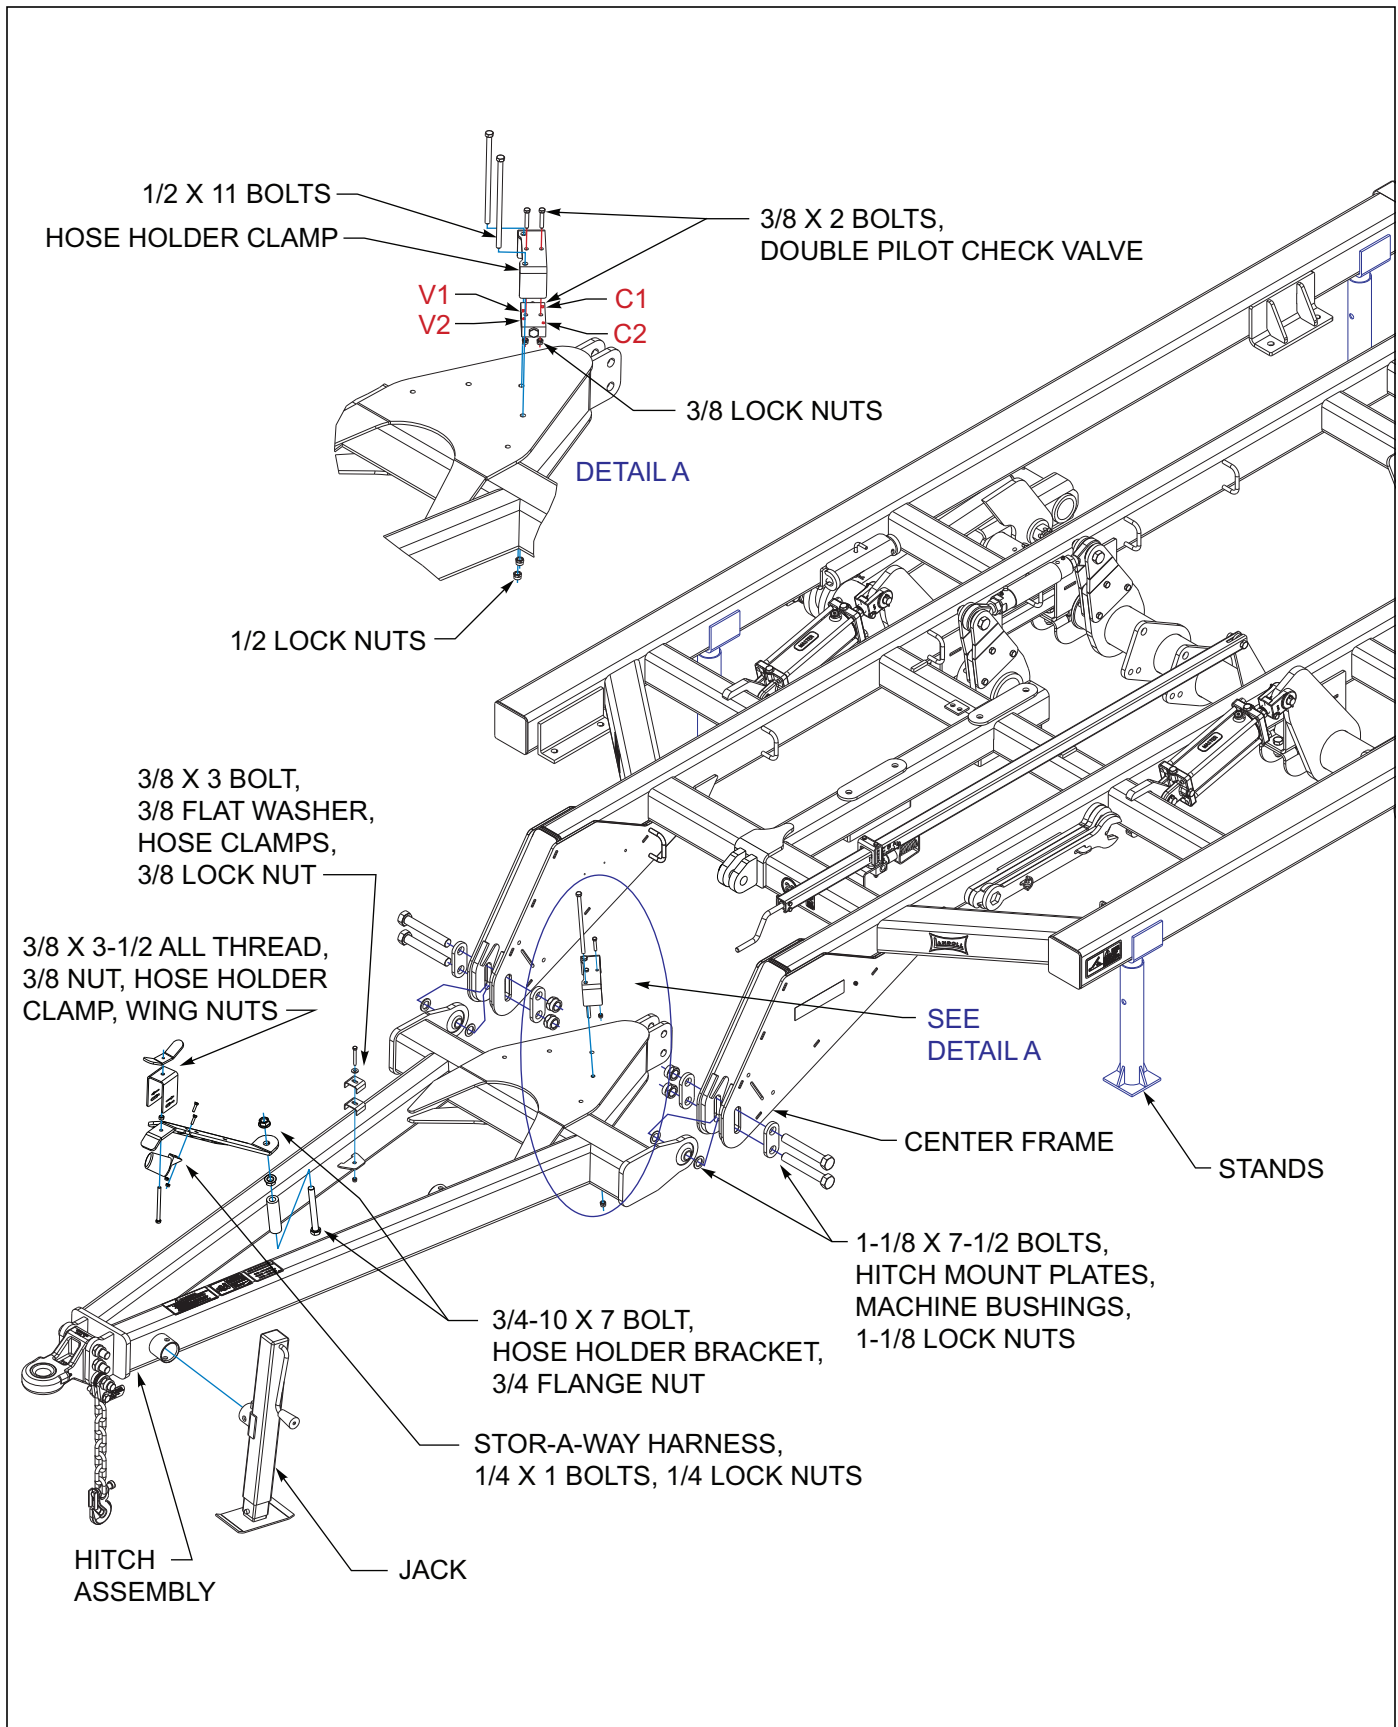

Figure 3-1: Frame and Hitch Assembly
2. Attach the hitch assembly to the front of the center frame using 1-1/8 x 7-1/2 bolts, machine bushings, hitch mounting plates, and 1-1/8 lock nuts **See Figure 3-1** Machine bushings are provided to remove the slack on each side of the ball joints and center the hitch. Use bushings as required.